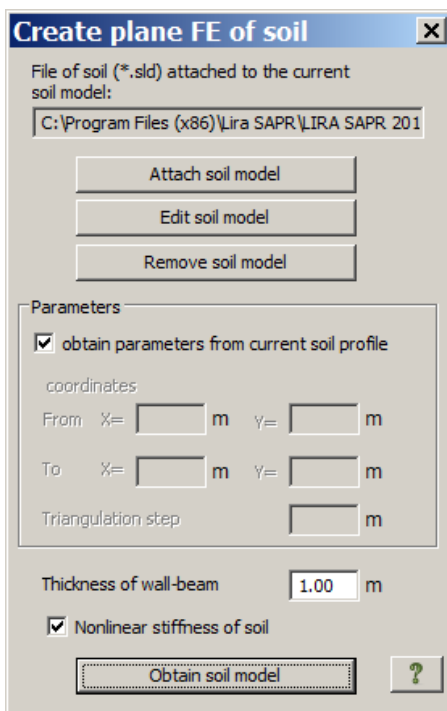

Figure 17.6. **Create plane FE of soil** dialog box
- ⇒ To automatically generate stiffness parameters for soil FE as nonlinear ones, in the **Create plane FE of soil** dialog box (see Fig. 17.6), select the **Nonlinear stiffness of soil** check box (by default, thickness of such plane FE is taken as equal to 1m).